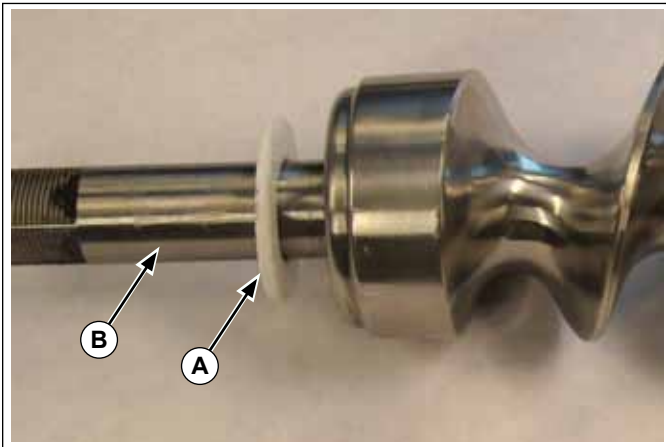

Figure 6. Shaft Washer and Worm Gear Shaft
2. Slide the shaft washer (A) onto the worm gear shaft (B). See Figure 6.